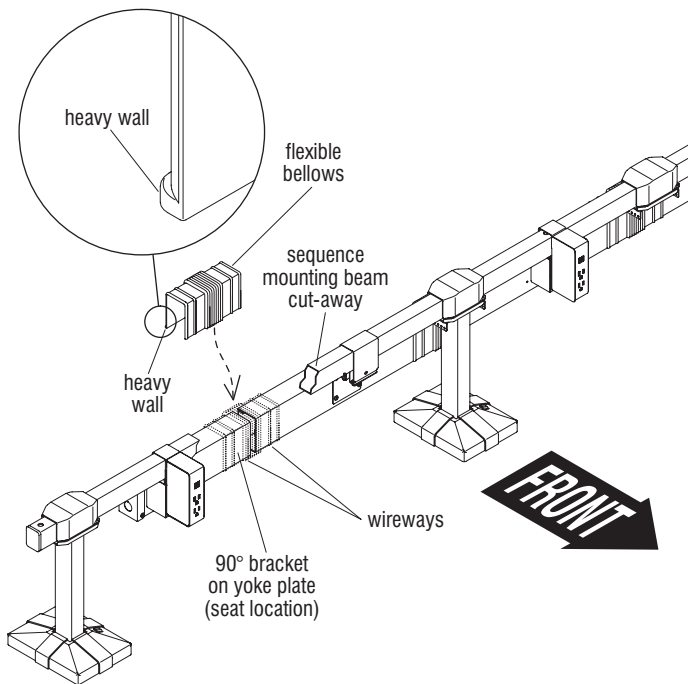

Figure 10
26. As illustrated, orient the flexible bellows so the heavy wall faces the back of the room (away from the beam), then center the flexible bellows over each gap and slide them onto the wireways (Figure 10).